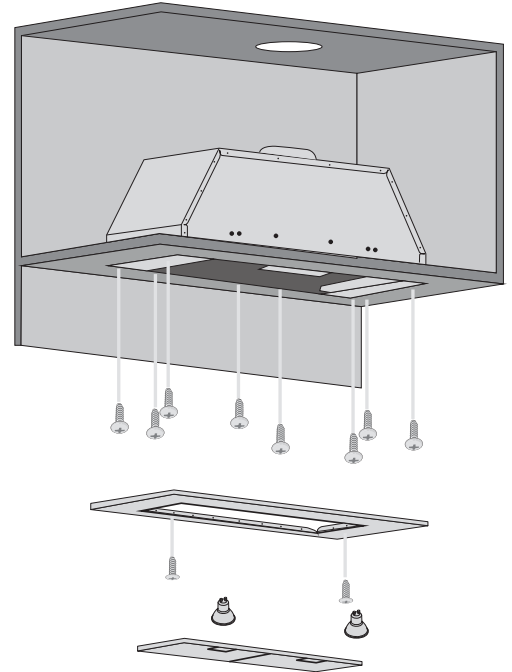

Figure 4
- Align range hood to the opening in the bottom of the cabinet and screw in with screws. (See Figure 4)